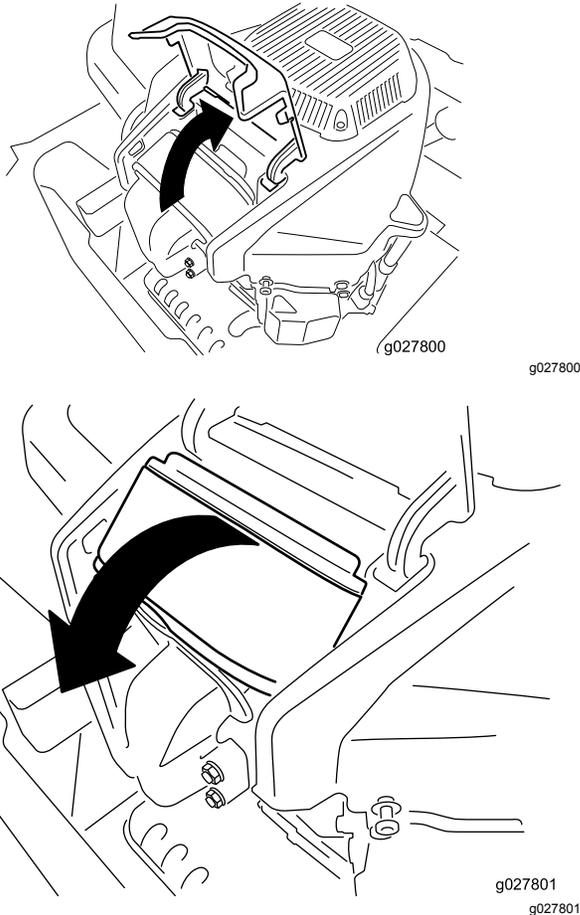

Figure 28
4. Lift the cover and rotate the air-cleaner assembly out of the engine (Figure 28).